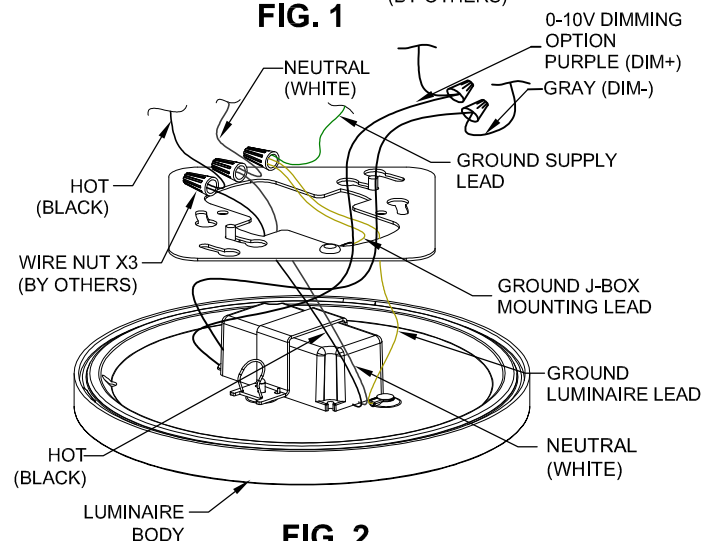

FIG. 2
3. Pull supply wires from J-BOX through hole in J-BOX MOUNTING PLATE. (FIG. 2)
5. While supporting LUMINAIRE BODY, Make electrical connections: black lead to hot (Black) supply lead; white lead to neutral (White) supply lead. Un-insulated wires are ground wires (ground J-box mounting lead and ground luminaire lead) and must be connected to grounding terminal or ground (Green) supply lead inside 3.5" ROUND, 4" SQUARE OR 4" OCTAGONAL J-BOX. Use WIRE NUTS to make connections. (FIG. 2)